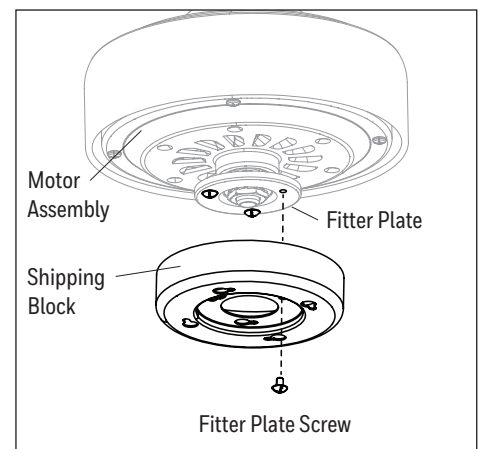

Figure 2.3
3. Remove one of the three fitter plate screws preassembled to the fitter plate and loosen the other two but do not remove. Turn shipping block counterclockwise and remove. Discard the shipping block, but save the fitter plate screw for later (Figure 2.3).